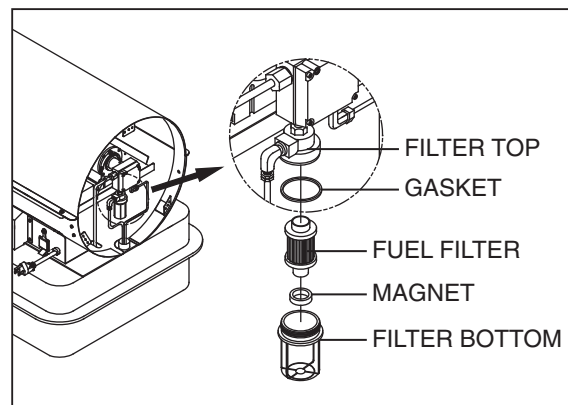

Figure 15. Fuel Pump Filter
- Remove fuel filter, gasket, magnet from filter bottom.(See Figure 15)